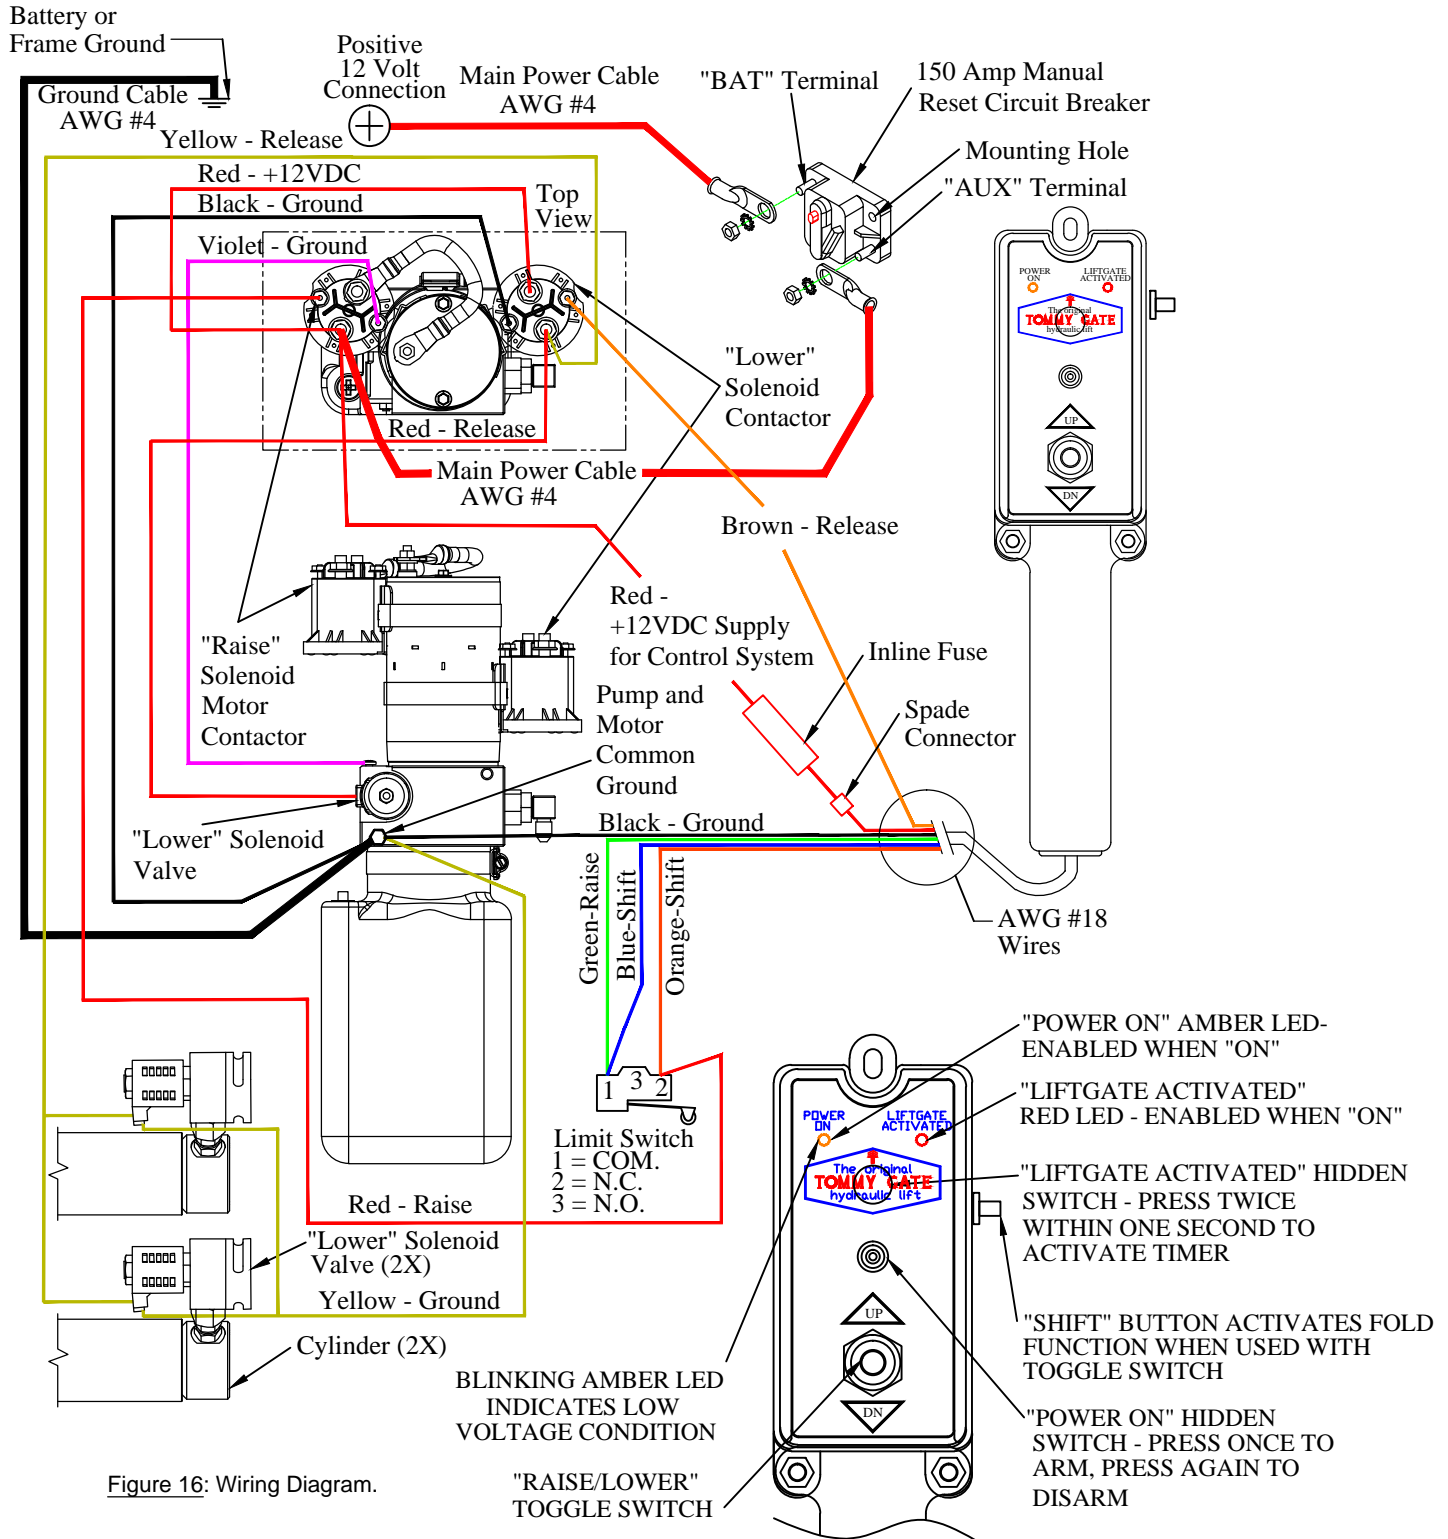

Figure 16: Wiring Diagram.
Note: Follow the *Tommy Gate Recommended Electrical Wiring Guidelines* and wiring diagram (Figure 16) in the following steps.
11. **Connect** the circuit breaker and battery as outlined in the *Tommy Gate Recommended Electrical Wiring Guidelines* and wiring diagram (Figure 16).